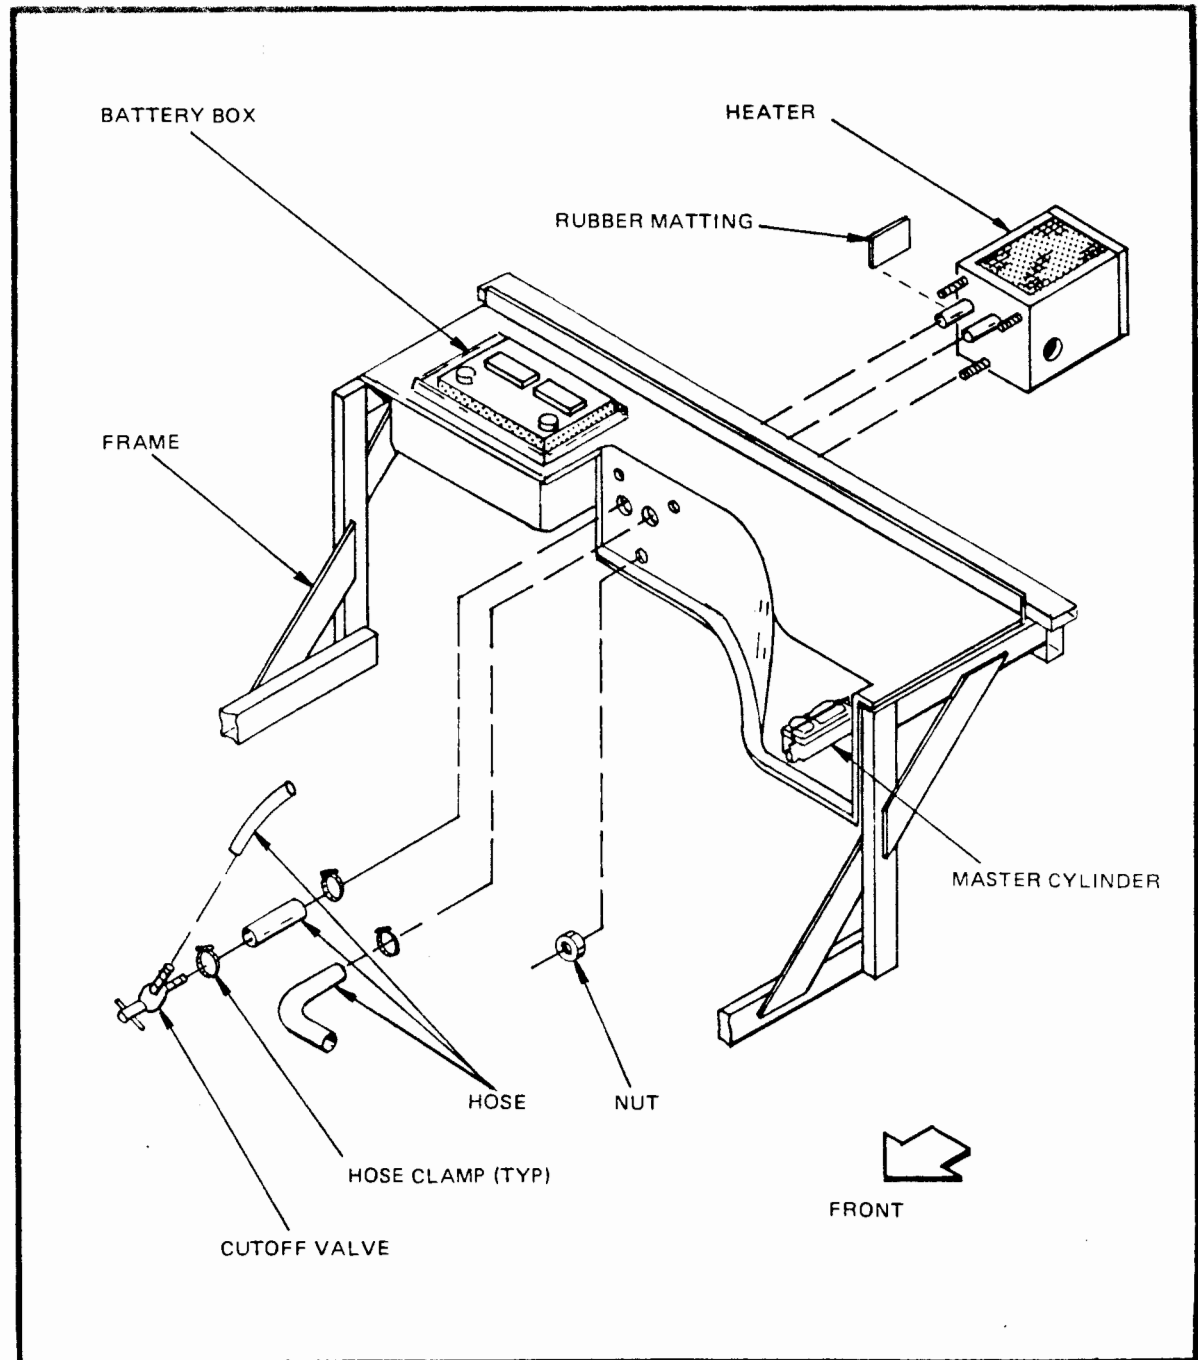

Figure 37
- Install heater into battery box, securing with hardware supplied with heater. Connect heater hoses to engine, attaching cutoff valve in heater inlet line. (Figure 37)